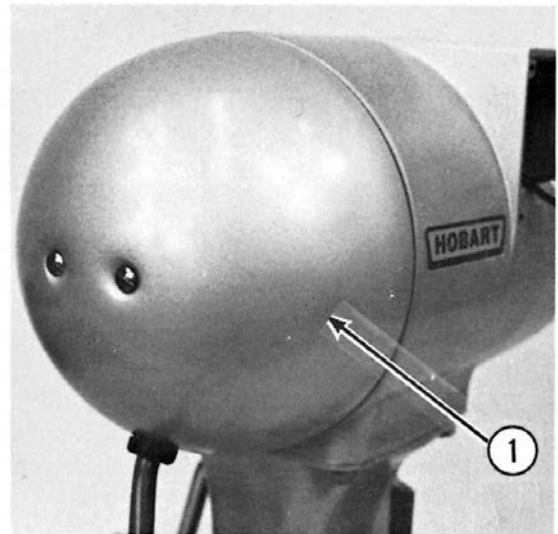

Fig. 3-3
D. Remove the end cover (two screws) (1, Fig. 3-3).